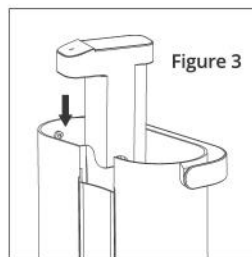

Figure 3
- Put the water pumping unit into the water tank. (Figure 3)